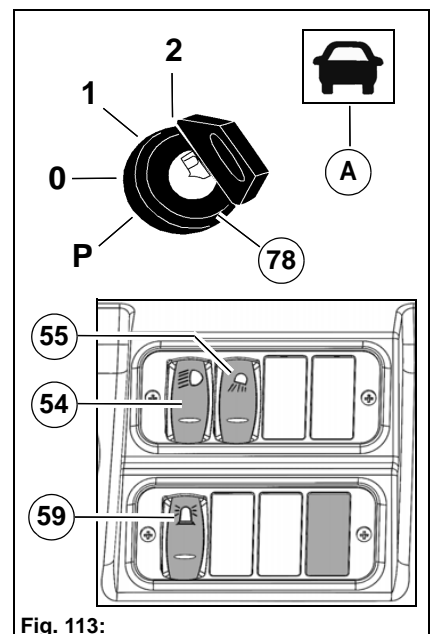

Fig. 113:
5. Drive to the work site. The transport mode information symbol **Fig. 113-A** appears in the multifunctional display.